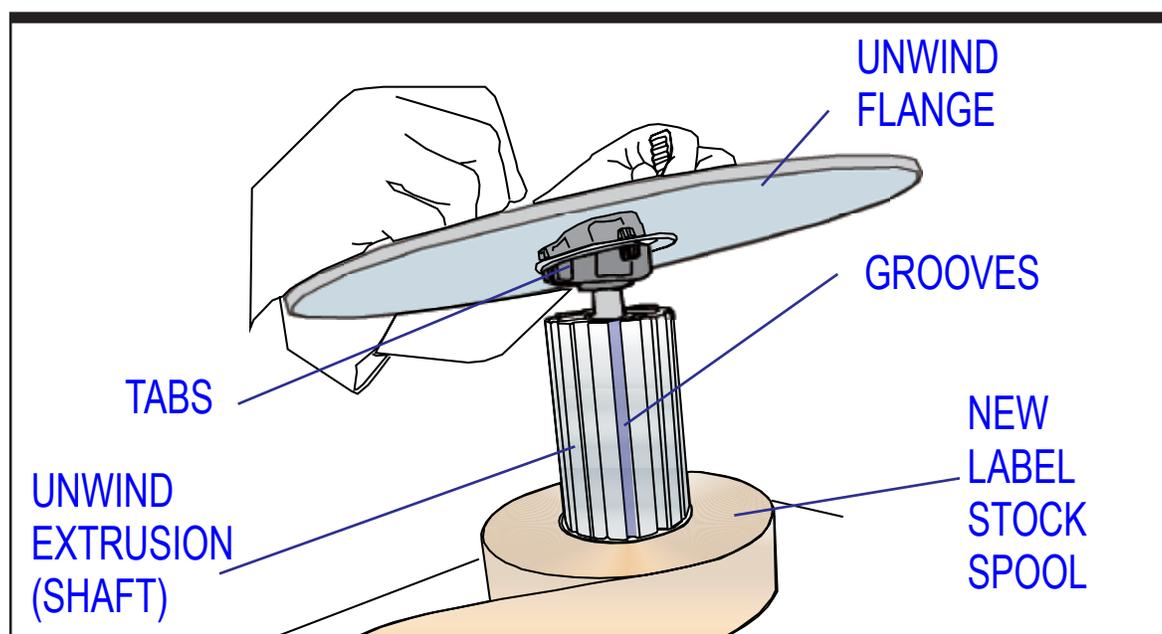

Figure 4-2. Unwind Assembly - Installing New Label Spool
Step 2. Install Label Core. Install a new spool of labels. Make sure the supply roll is pushed to the inner unwind flange of the assembly. Replace the outer flange by aligning the tabs with the grooves on the extrusion (see Figure 4-2). Once the outer flange is slid down over the spool along the grooves, firmly seat the outer flange down over the spool, and push the tabs into the core of the spool.